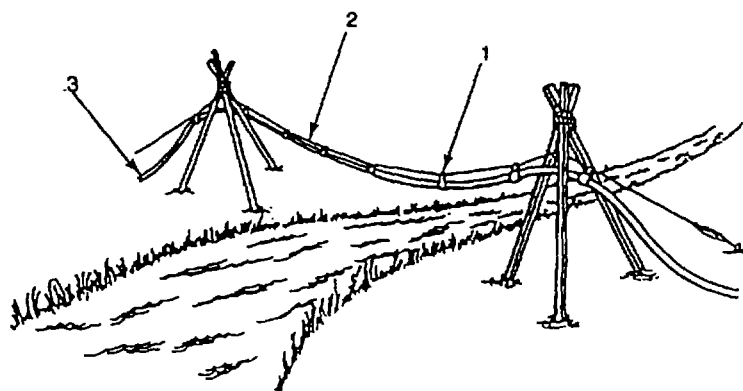

Figure 2-13. Hoseline and Suspension Kit
- (17) Locate saddles (3), bolts (4), and shackles (5).
- (18) Place shackle (5) over wire rope (6) beyond pulley on span side.
- (19) Lift hose end and wrap saddle (3) around hose (2).
- (20) Install bolt (4) through eyes of saddle (3) and shackle (5). Tighten bolt (4) until saddle assembly is secured to wire rope (6).
- (21) Using manila rope, pull hoseline across stream, gap, or obstruction. Repeat steps (17) through (20), attaching additional saddles to hoseline at 5 ft (1.5 m) intervals. Saddles (1, Figure 2-13) will travel along wire rope (2), providing support for hoseline (3).